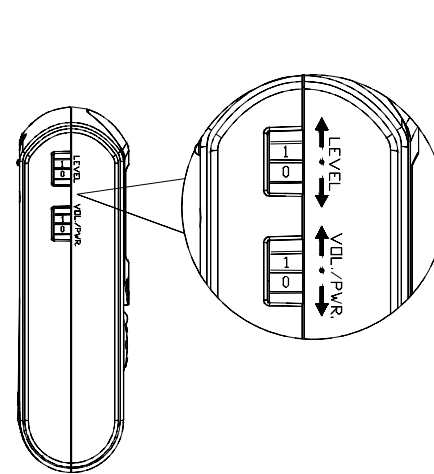

Fig. 14a
2. Volume/Power control: It allows you to adjust the audio level received from the Camera. (Fig. 14a)